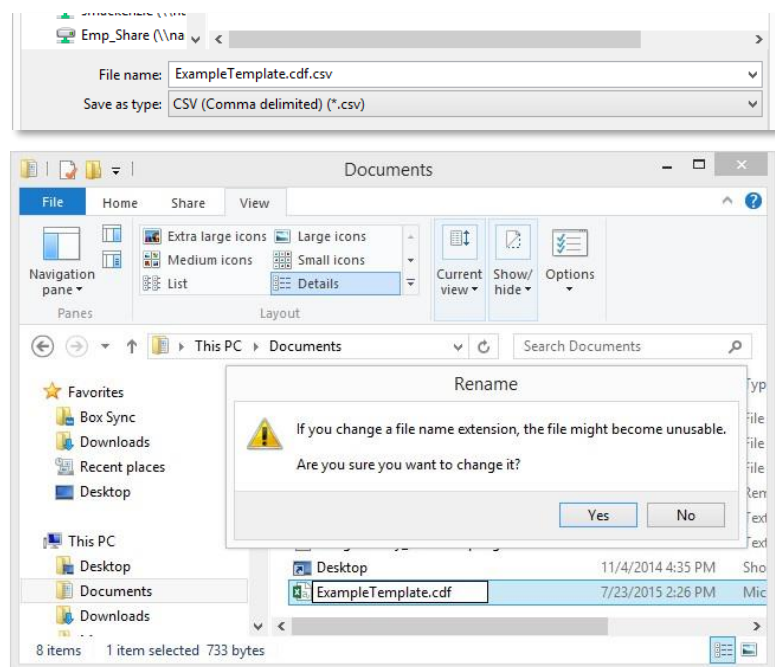

Figure 61: Removing the “.csv” file extension.
5. When finished entering the information, save the file as a “.csv” file type; the file name will include BOTH “.cdf” and “.csv” extensions as shown in **Figure 61 (top)**.
7. Remove the extra “.csv” file extension, leaving the file extension “.cdf” (**Figure 61, bottom**). If a warning appears, click **Yes** to continue.